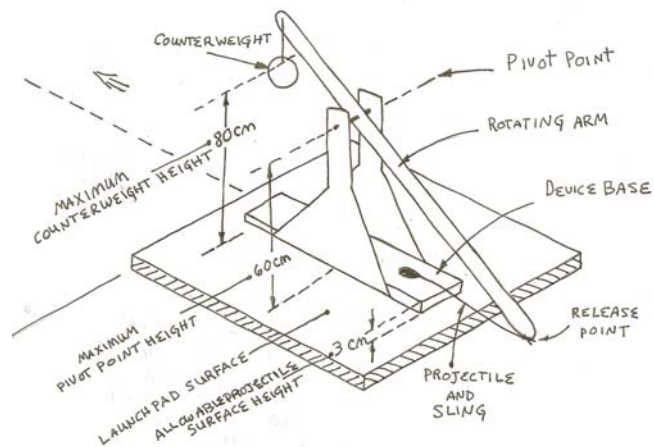

Figure 1
9. The maximum height that any portion of the counterweight may be raised above the launch pad surface during operation is 80 cm. See Figure 1.
15. The maximum height of the rotating arm pivot point must not exceed 60 cm from the launch pad surface. See Figure 1 or 2.